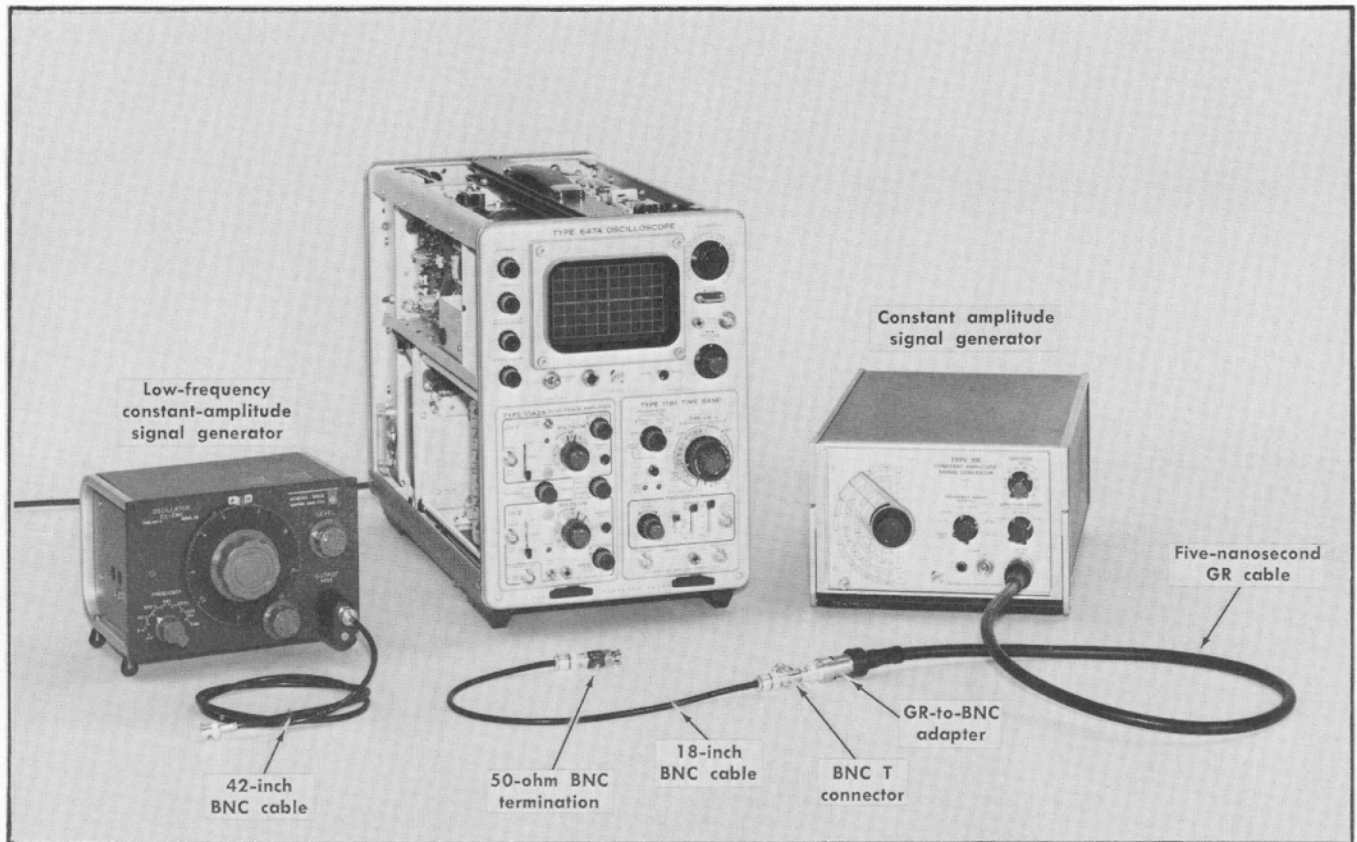

Fig. 5-1. Equipment required for steps 1 through 10.
- a. Test equipment for steps 1 through 10 is shown in Fig. 5-1.